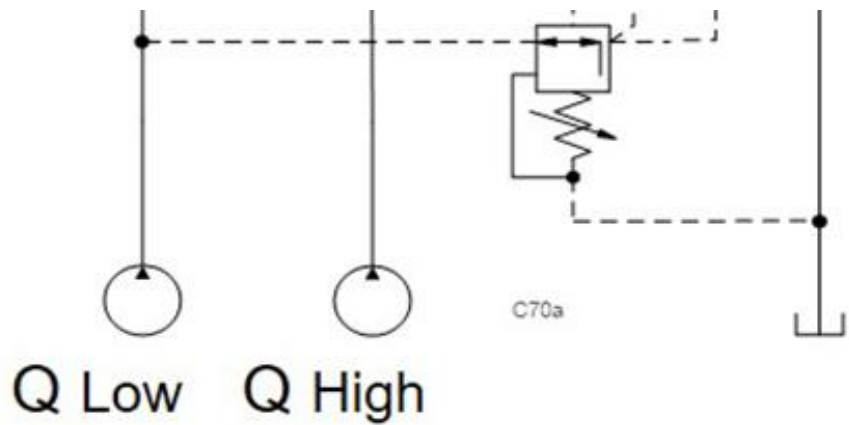

Fig.2
- Fig.2 shows a balanced logic valve unload the high-flow pump at a preset high pressure.